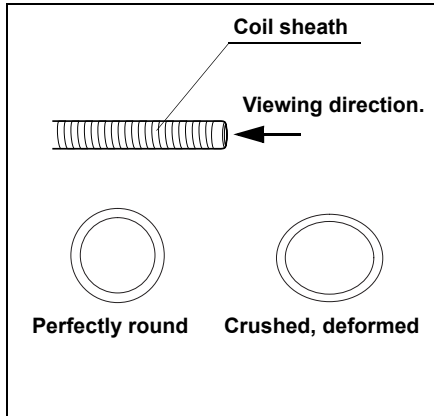

Figure 3.1
1. Confirm that the distal end of the coil sheath is perfectly round (not deformed or crushed), and that there are no sharp protrusions, burrs or edges when viewing the distal end of the coil sheath from the direction shown in Figure 3.1.